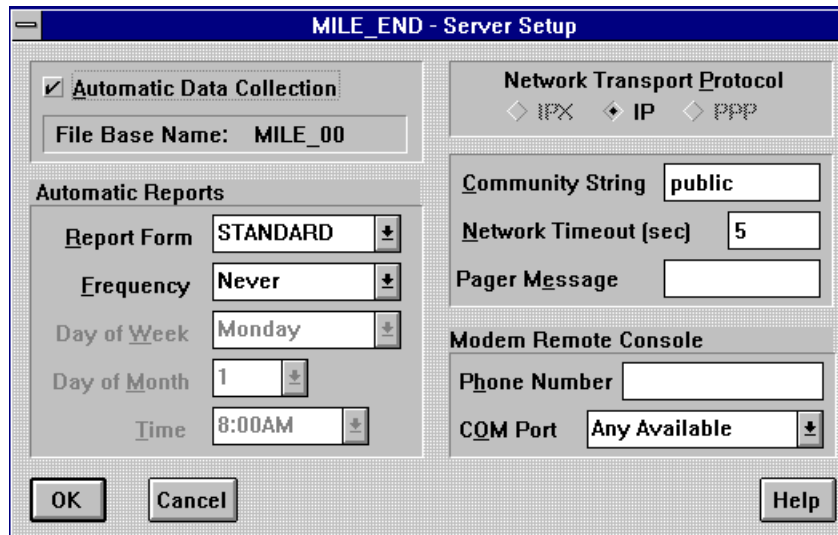

Figure 6-12. Selecting ADC in the Server Setup window
5. Press the *Server Tasks* button and select *Server Setup*. The Server Setup window is displayed as shown in Figure 6-12.